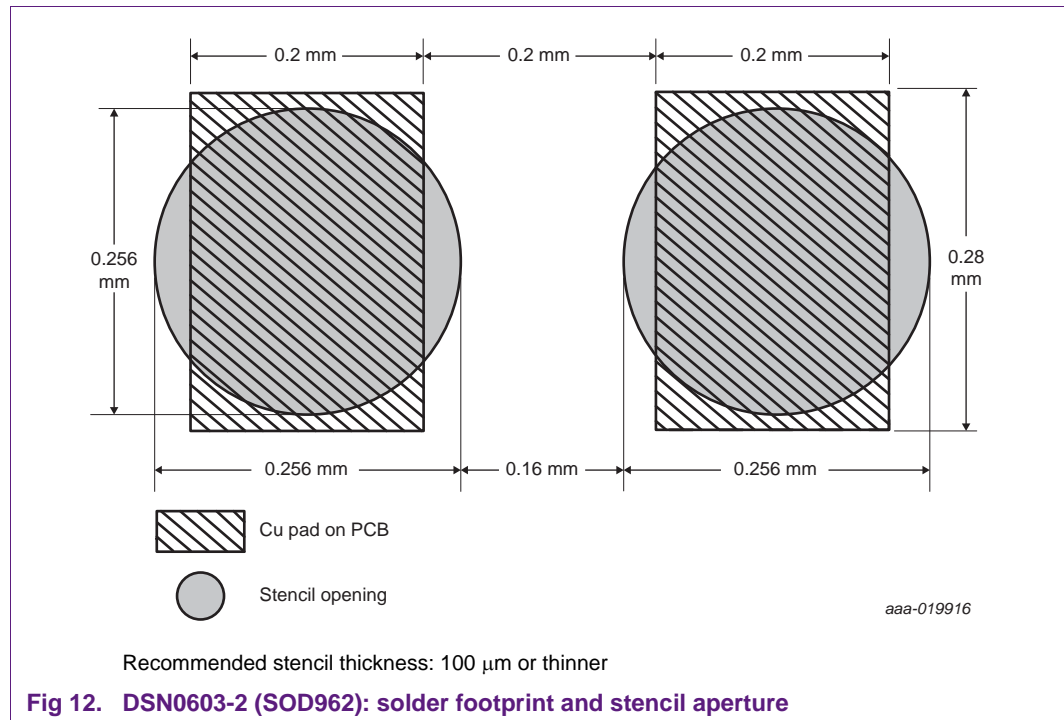

Fig 12. DSN0603-2 (SOD962): solder footprint and stencil aperture
The recommended solder footprint including stencil aperture is shown in Figure 12 for DSN0603-2 (SOD962).
- A stencil aperture dimension as shown in Figure 7 and Figure 12 is recommended for DSN0603-2 (SOD962).